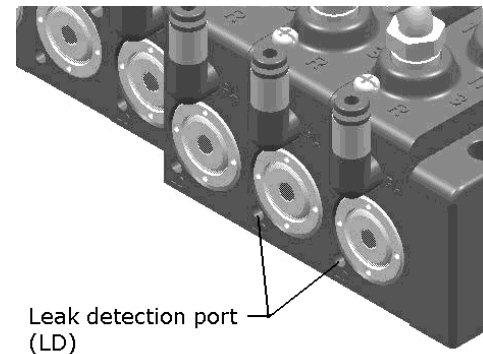

Figure 11
- A leak detection port is provided on the manifold/single manifold to warn of valve seal failure. See Figure 11.